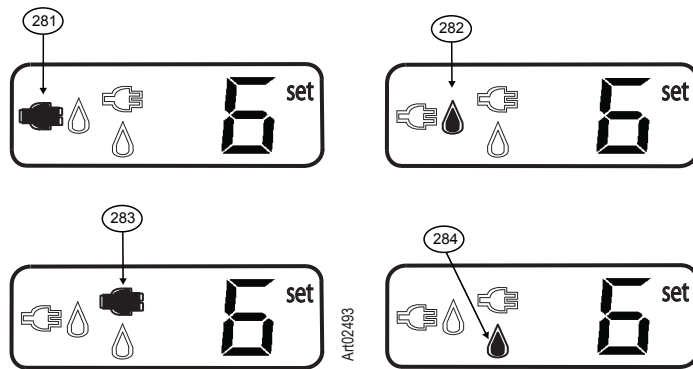

Fig. 13 - Mode Indicators
- If available, the refrigerator controls select AC electric as the power choice and the Auto mode AC indicator [281] comes on (See Fig. 13).